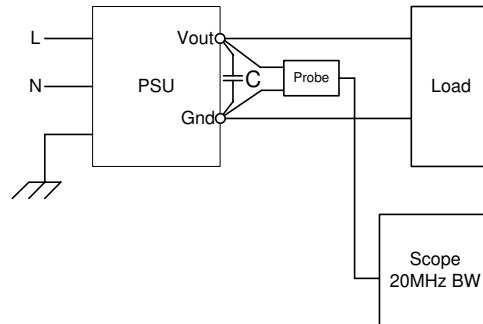

Figure 6. Output Ripple Test Setup
- Outputs bypassed at the point of measurement with a parallel combination of $10\mu\text{F}$ tantalum capacitor in parallel with $0.1\mu\text{F}$ ceramic capacitors, referring the setup in *Figure 6*.